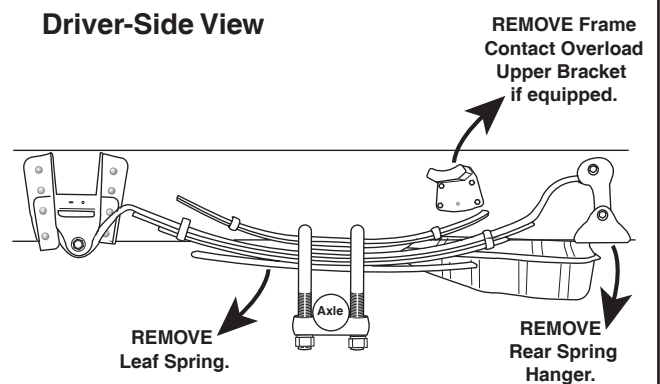

Figure 2
2. Remove both leaf springs, and the rear frame contact overload brackets, if equipped, and both rear spring hangers from the frame (Figure 2).